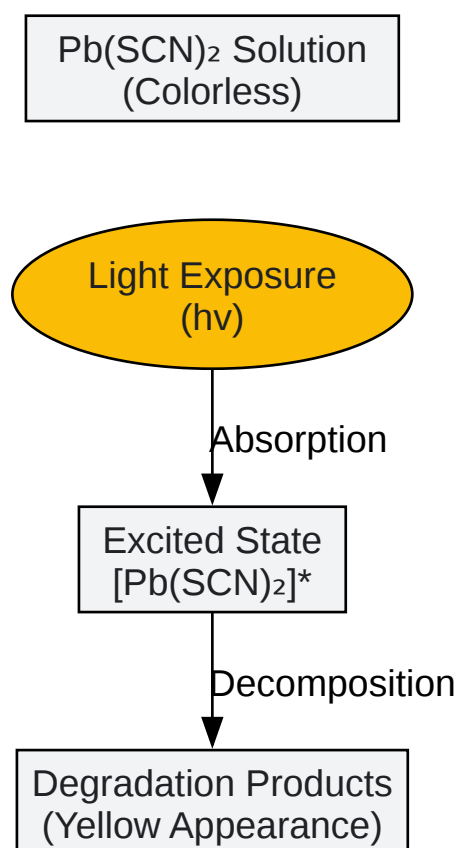

Figure 1: Photodegradation Pathway of Lead(II) Thiocyanate
Caption: Figure 1: Photodegradation Pathway of **Lead(II) Thiocyanate**